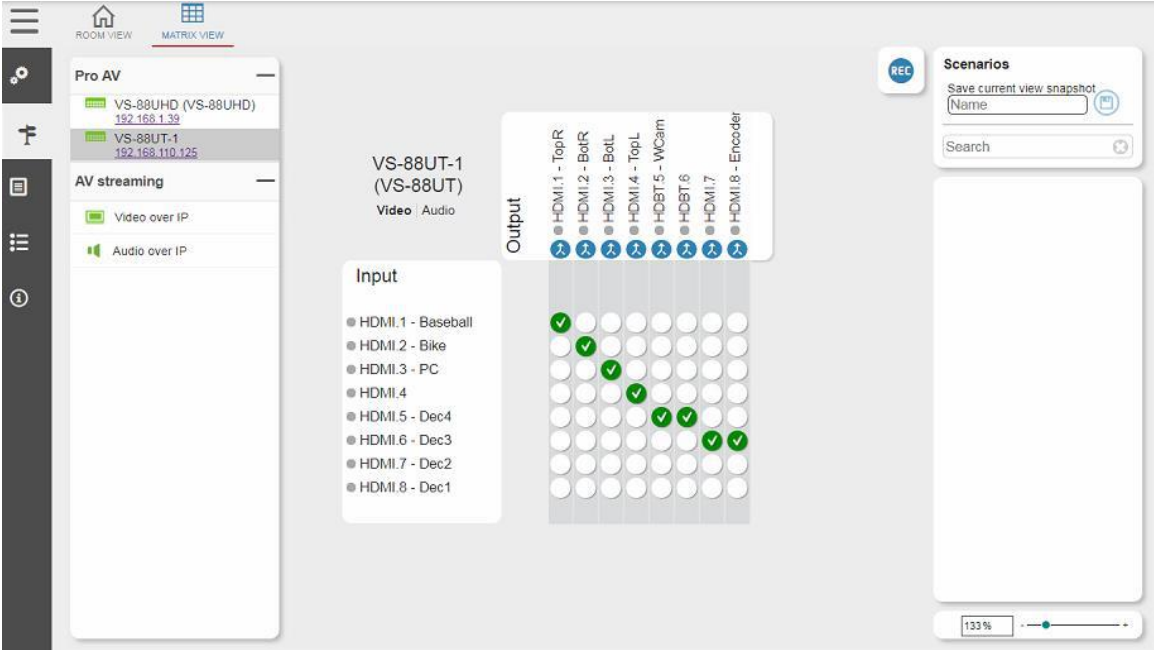

Figure 112: Matrix View – Pro AV Video Routing
4. Click an empty cross-point to connect an input to an output (for example, in Figure 112 HDMI 1 input is routed to HDMI 1 output but not to HDMI 2 output).